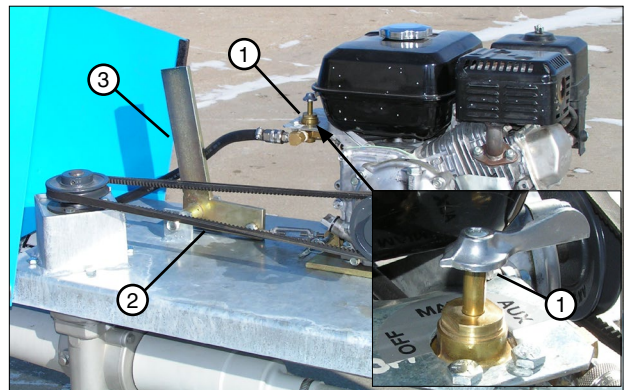

Figure 15-2 1. Fuel Valve
3. Move the tank selection fuel valve lever to the desired fuel tank position, Off, Main or Auxiliary. See figure 15-2.
4. If required, change the v-belt configuration for forward or reverse direction of operation. See figure 15-2.
5. Make sure the direct drive handle is pushed toward engine to engage center drive gearbox and engine pulleys with v-belt. See figure 15-2.